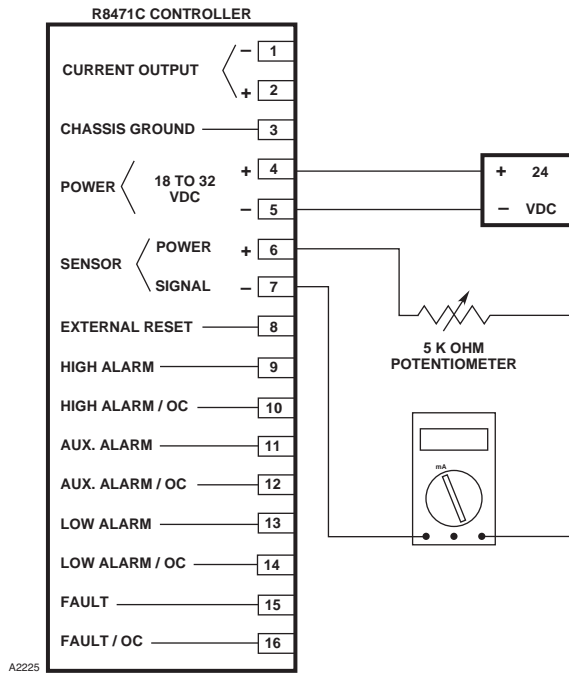

Figure 17—Potentiometer and Ammeter Used to Simulate Detector Output Signal
3. Connect a 5 Kohm potentiometer or 4-20 mA signal generator between terminals 6 and 7. See Figure 17. Connect an ammeter in series with the potentiometer and terminal 7 to enable measurement of the milliampere output.